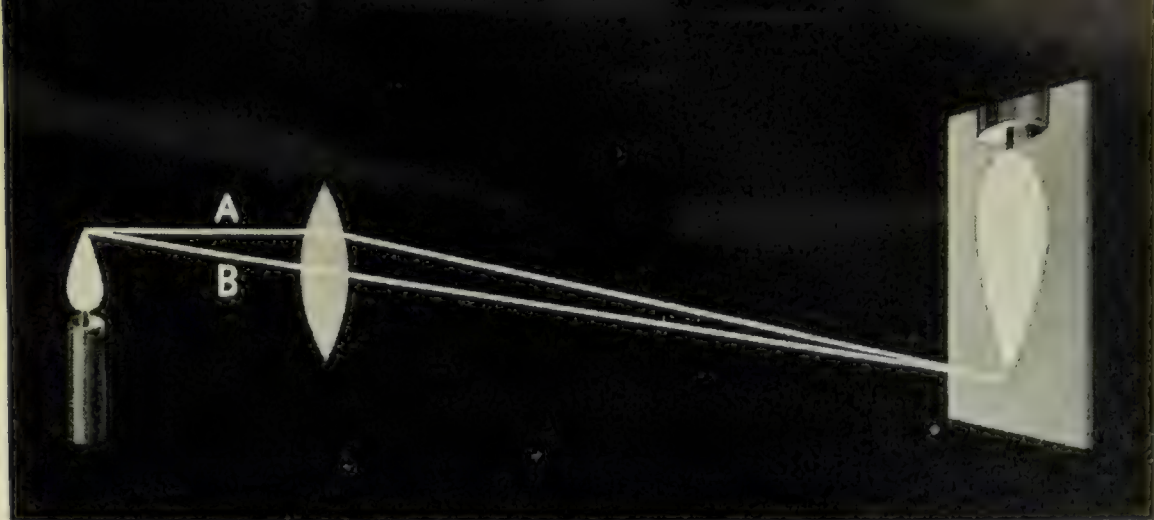
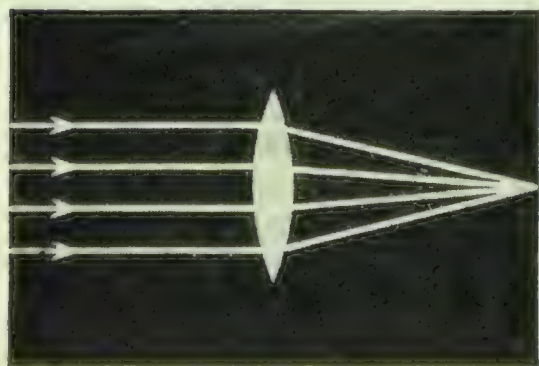

FIG. 468. Apparatus for Experiment 106
FIG. 469. This drawing shows the focusing of light rays that pass through a convex lens.
*Experiment 106.* HOW DO LENSES AFFECT RAYS OF LIGHT? (a) Obtain a reading glass (a double convex lens). Darken the room and light a candle. Hold the lens a foot in front of the candle (Figure 468) and then hold a piece of paper back of the lens, where a distinct image of the candle appears on the paper. The candle
First of all, we must explain why the lens forms an image of the candle on the screen. A diagram will make this clear (Figure 468). We will let lines represent rays of light from the candle. First we will draw line A from the top of the candle flame to the lens. We see by our drawing that the top of the candle comes to a focus on the bottom of the image. Therefore we must draw line A so that it will come to a focus at this point. The continuation of line A will therefore be bent downward. This bending of the light is called *refraction*. We say that the ray is *refracted*. The ray of light, B, that passes through the centre of the lens goes through without bending and intersects line A on the screen.
Figure 468 shows you that rays of light are refracted, or bent, by a convex lens. That is the reason why the lens can form an image. You have seen that rays of light can be refracted when you used a burning-glass. In this case the rays of sun that strike the glass are bent so that they come to a focus at a certain point (Figure 469). The rays are bent as they pass from the air through the lens because light travels more slowly in glass than in air. Just how this bends the rays you will find out later if you study about the theories of light in physics. You also found in the ex-